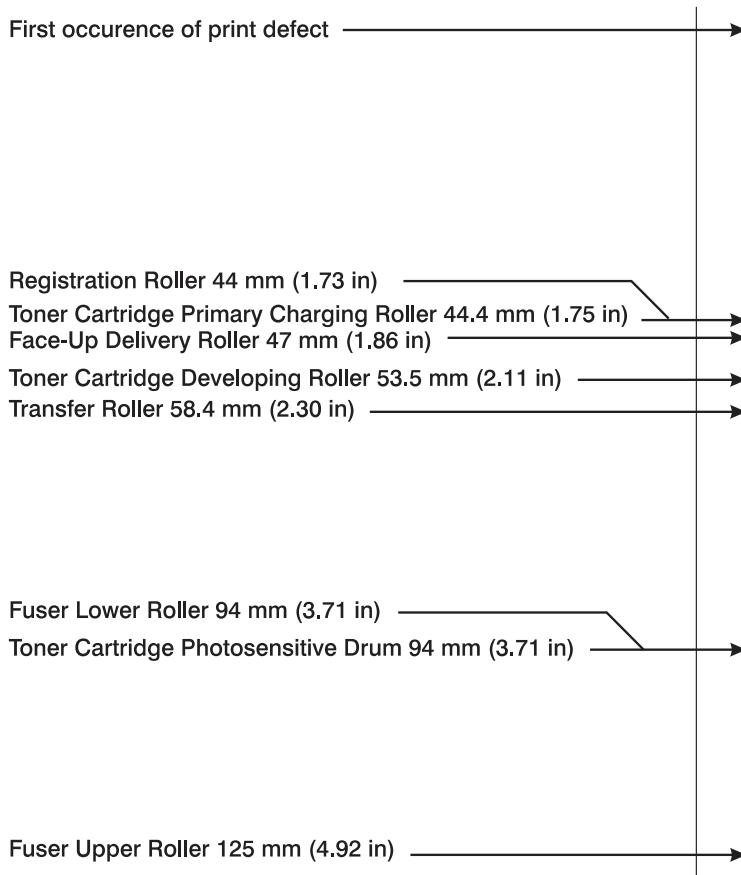

Figure 7-14 Repetitive Defect Ruler
1. Toner cartridge is damaged. If the defect repeats at any of the following intervals and in the direction of paper movement, it is associated with a component inside the toner cartridge. See figure 7-14 on page 484.	Inspect the drum for scratches or damage. Replace the toner cartridge. Use the Repetitive Defect Ruler, figure 7-14 on page 484.
Repetitive print defects are usually associated with a specific roller within the printer or the toner cartridge. Use figure 7-14 to isolate the cause of repetitive print defects. Align the first occurrence of the defect with the top of the “ruler” and measure to the next occurrence of the defect to determine the roller in question. When you are certain that your defect pattern matches the pattern of the ruler, replace the indicated roller.